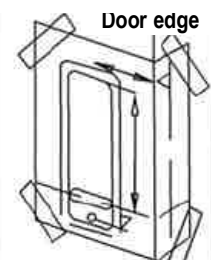

Figure 1
- Correctly position and tape the template, T/035/SBL300, to the internal door face, at the desired height from the floor level. Ensure that the relevant, marked, door edge on template is correctly aligned with actual door edge. (Figure 1)